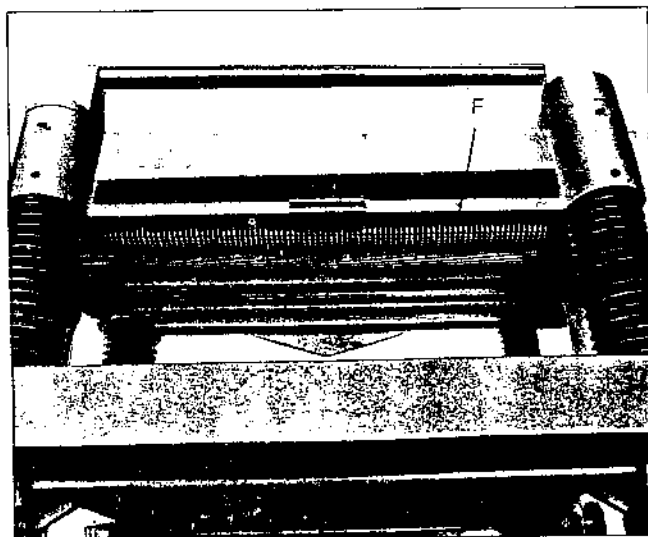

Fig. 29
The anti-kickback fingers (F) Fig. 29 are provided on your planer to prevent kickback. These fingers operate by gravity and it is necessary to inspect them occasionally to make sure they are free of gum and pitch so that they move independently and operate correctly.